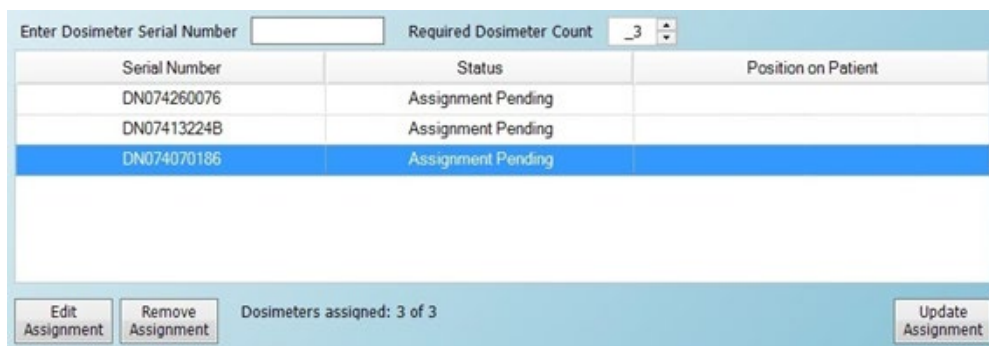

Figure 7-7: Dosimeter Assignment - Dosimeter ID Section
**STEP 4:** Click the Select Patient button. The *Dosimeter ID* section will be displayed (Figure 7-7).
- STEP 4:** Click the Select Patient button. The *Dosimeter ID* section will be displayed (Figure 7-7).